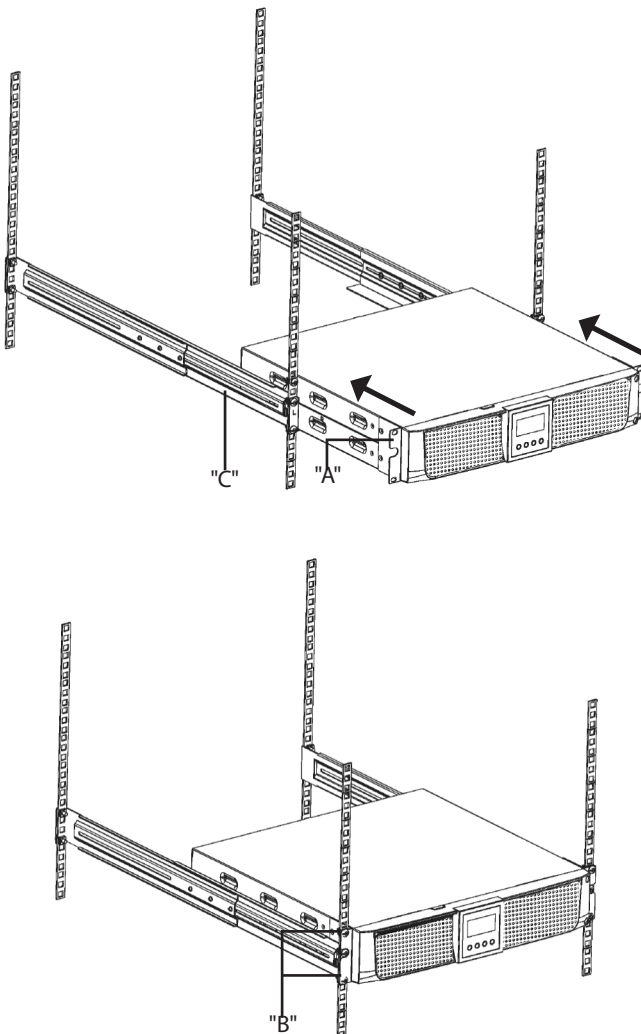

Fig. 9. 19" rack cabinet assembling.
- To do it proceed as follows (see figure 9):